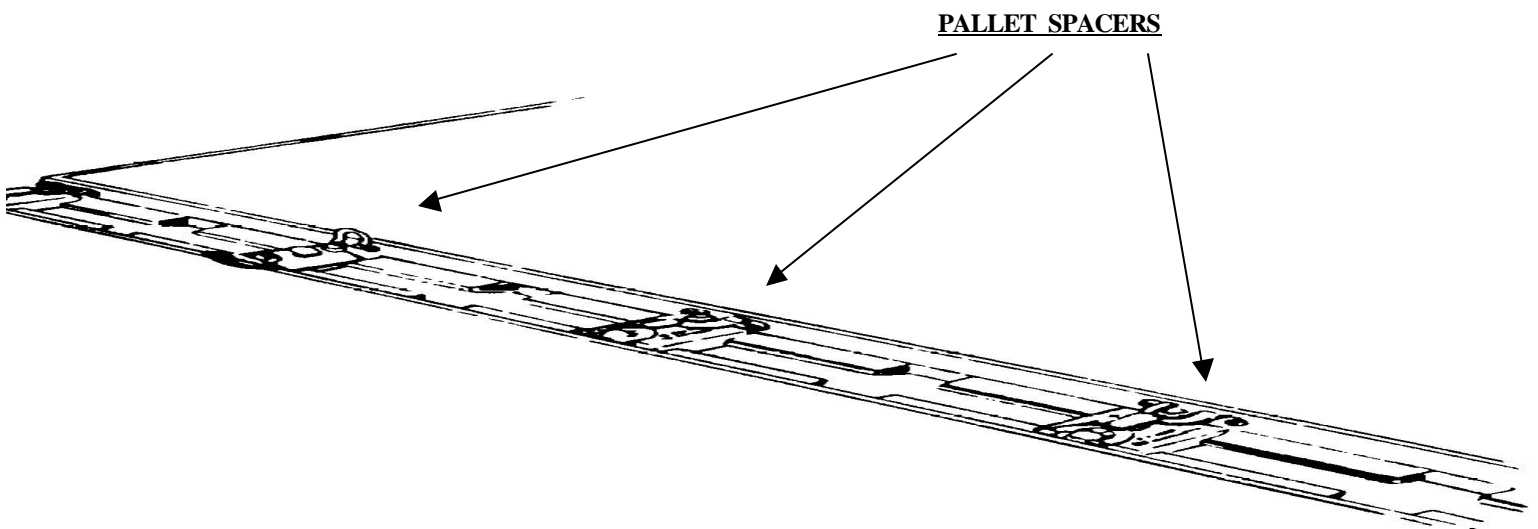

Figure 4
(1) Palletize cargo from the heaviest to the lightest. Distribute the large and heavy items evenly from the center of the pallet outward.
(2) The maximum height when building a 463L pallet is 96 inches. When measuring the pallet, all measurements are taken from the top of the pallet to the highest point of the cargo.
f. Married Pallets. When cargo exceeds the usable dimensions of the 463L pallet, two or more pallets may be joined by using pallet spacers (see figure 4). The spacers are used to keep the married pallets aligned and properly spaced so they will lock into the rail systems of the aircraft.